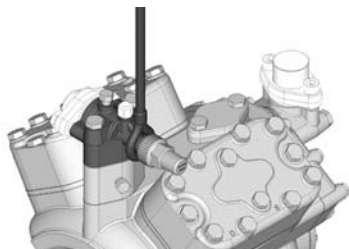
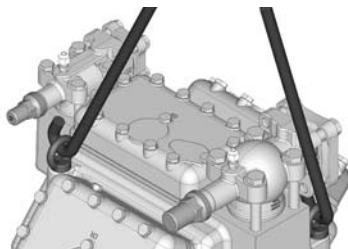

Fig. 11
Fig. 12
- Transport and suspension unit on the eyebolt (Fig. 12, F14 to F16) or direct on the discharge line valve (Fig. 11, F2 to F5).